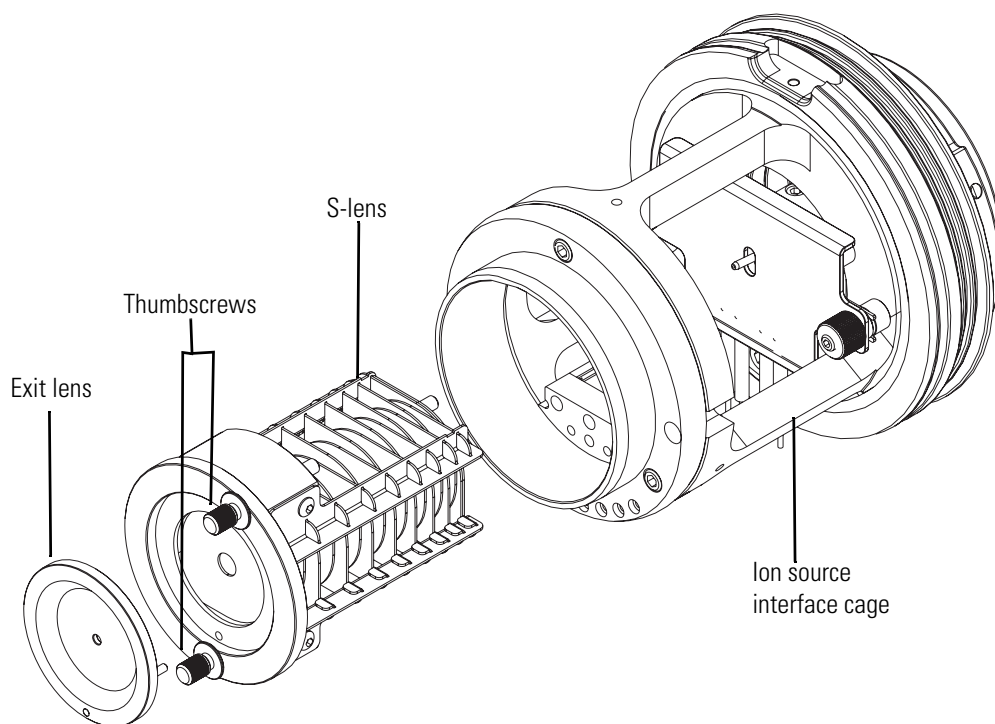

Figure 8-31. Exit lens and S-lens separated from the ion source interface cage
3. Loosen and extend the two thumbscrews that secure the S-lens to the ion source interface cage and the exit lens to the S-lens (Figure 8-31).
2. Slide the S-lens into the ion source interface cage and align the thumbscrews with the screw holes (Figure 8-31 on page 8-48).
2. Slide the ion funnel into the ion source interface cage and align the thumbscrews with the screw holes (Figure 8-31 on page 8-48).